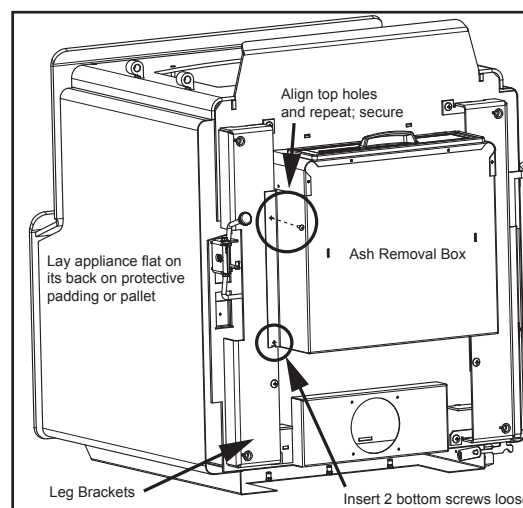

Figure 21.1
- Start bottom two bolts through ash drawer, leg mount and into the bottom of the appliance (**Figure 21.1**).